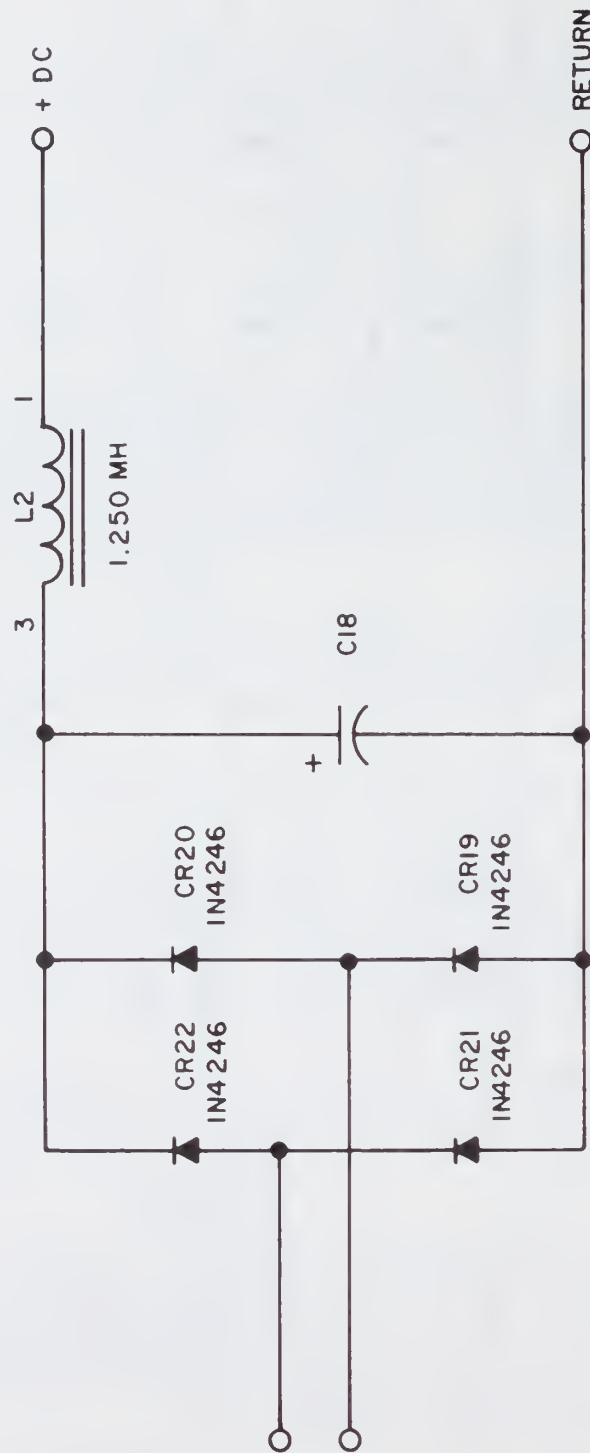

Figure 2-10. Input Rectifier and Filter
**2.4.1.1** The IDE power supply is a redundant system employing dual, independent off-line switching converters. Each power supply is complete on a single circuit card assembly and supplies all four voltages required for system operation. These are +5 Vdc, +12 Vdc, -12 Vdc and an isolated 5 Vdc for radar interface circuits. In addition, all output voltages are isolated from the ac line by transformers. Each of the two circuit cards has a full-wave bridge to rectify the ac line and a L-C filter. This off line voltage is used on the primary side of two switching converters to be discussed later (see figure 2-10).